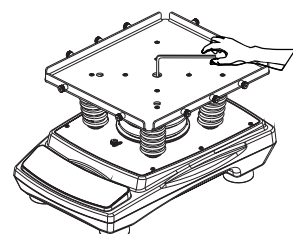

Figure 4
6. Hold the tray with one hand and tighten the inner hexagon screw with the allen wrench at the center of the tray until it's fastened, as shown in figure 4.